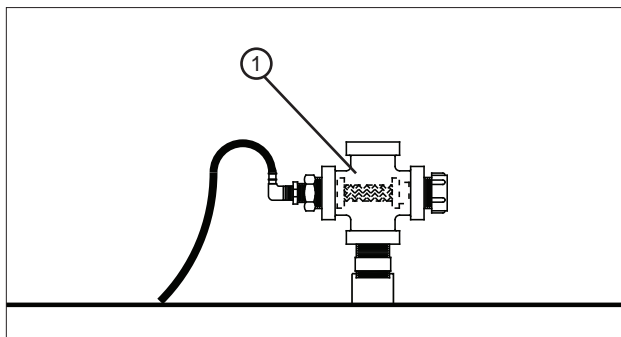

Figure 36-3 1. Cross Filter
- Clean the end gun shut off solenoid valve cross filter or optional dirty water filter. See figures 36-3 and 36-4.